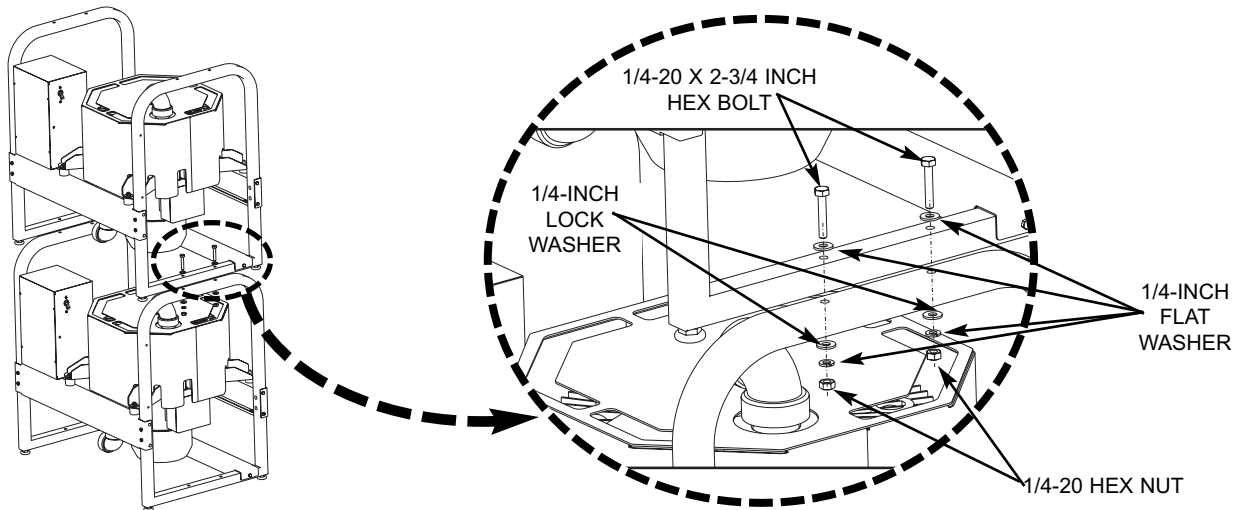

Figure 7. Stacking Two STS Pumps Hardware Detail
4. Stack the two STS pumps as shown by Figure 7 and secure the pumps together using supplied hardware.